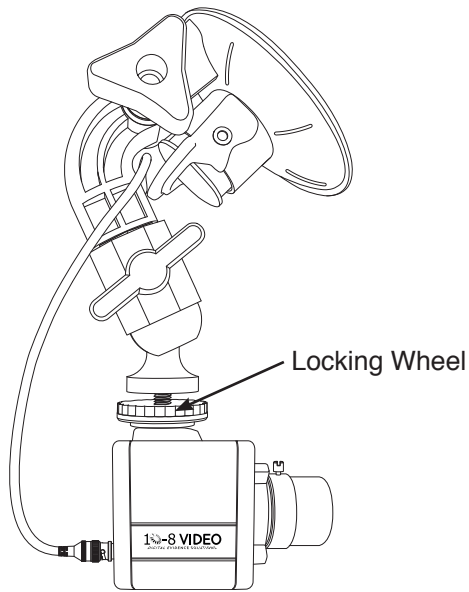

FIG. 9
- 4 Adjust the large locking wheel (FIG. 9) above the camera so that the camera can be rotated easily, yet stay in place while driving.